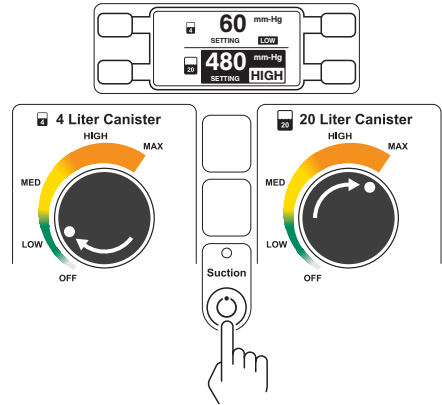

Figure 3 – To Apply Suction
8. Press the SUCTION ON/OFF button and turn the SUCTION LIMIT SETTING dial of either canister to the maximum suction level. Make sure the maximum suction level value on the CONTROL PANEL DISPLAY is obtained (Figure 3).